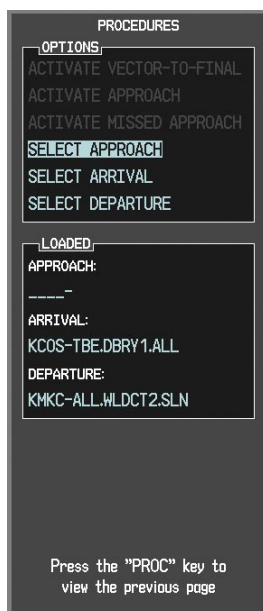

Figure 5-120 Procedures Window
b) 'SELECT APPROACH' should be highlighted as shown in Figure 5-120.